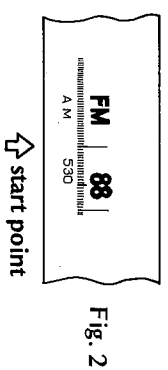

Fig. 2
- Set the dial pointer to start point on dial scale as Fig. 2.